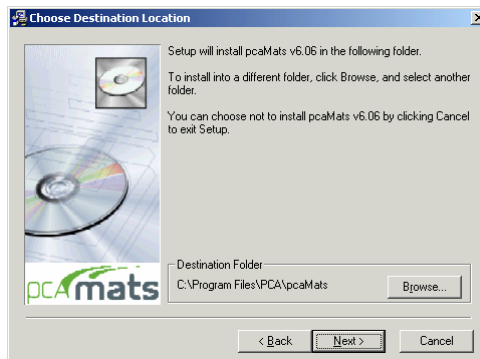

Figure 1-5. Choose Destination Location
7. The next setup is to decide the directory where pcaMats is to be installed as shown in Figure 1-5. The default one is C:\Program Files\PCA\pcaMats. You may press the BROWSE button to locate the directory. If the directory does not exist, the setup program will create it. Press the NEXT button to go to the next step.